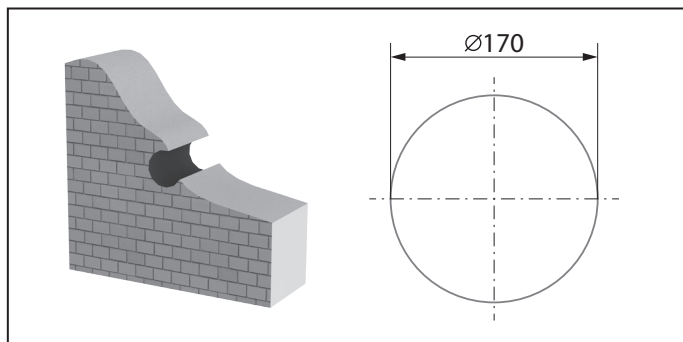

Fig. 7. Size of the core hole
1. Prepare a round core hole through the outer wall. The size is shown in the figure 7. While mounting several connected in series units provide a recess for the cable layout during the hole preparation to enable series connection of several units.